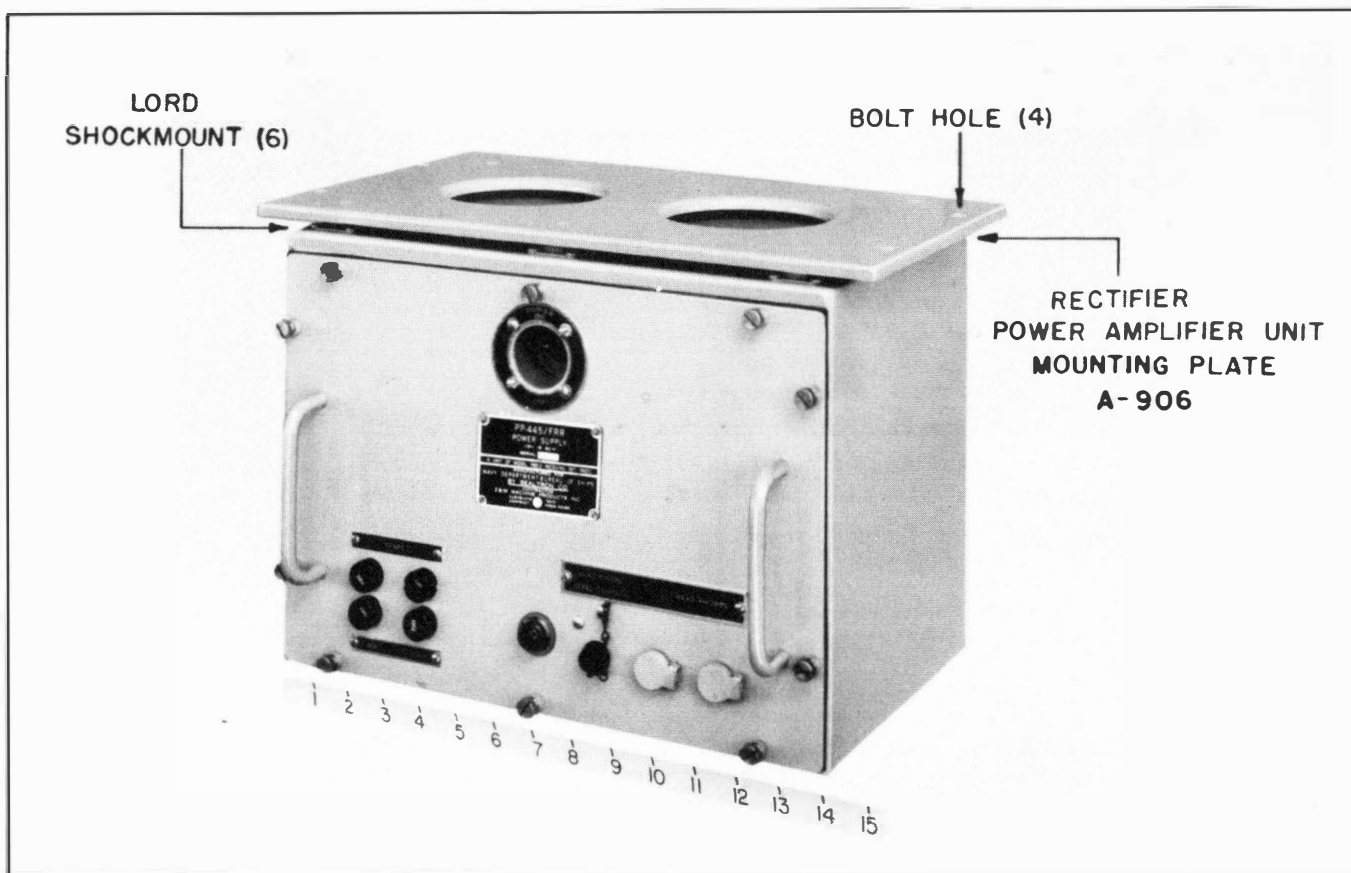
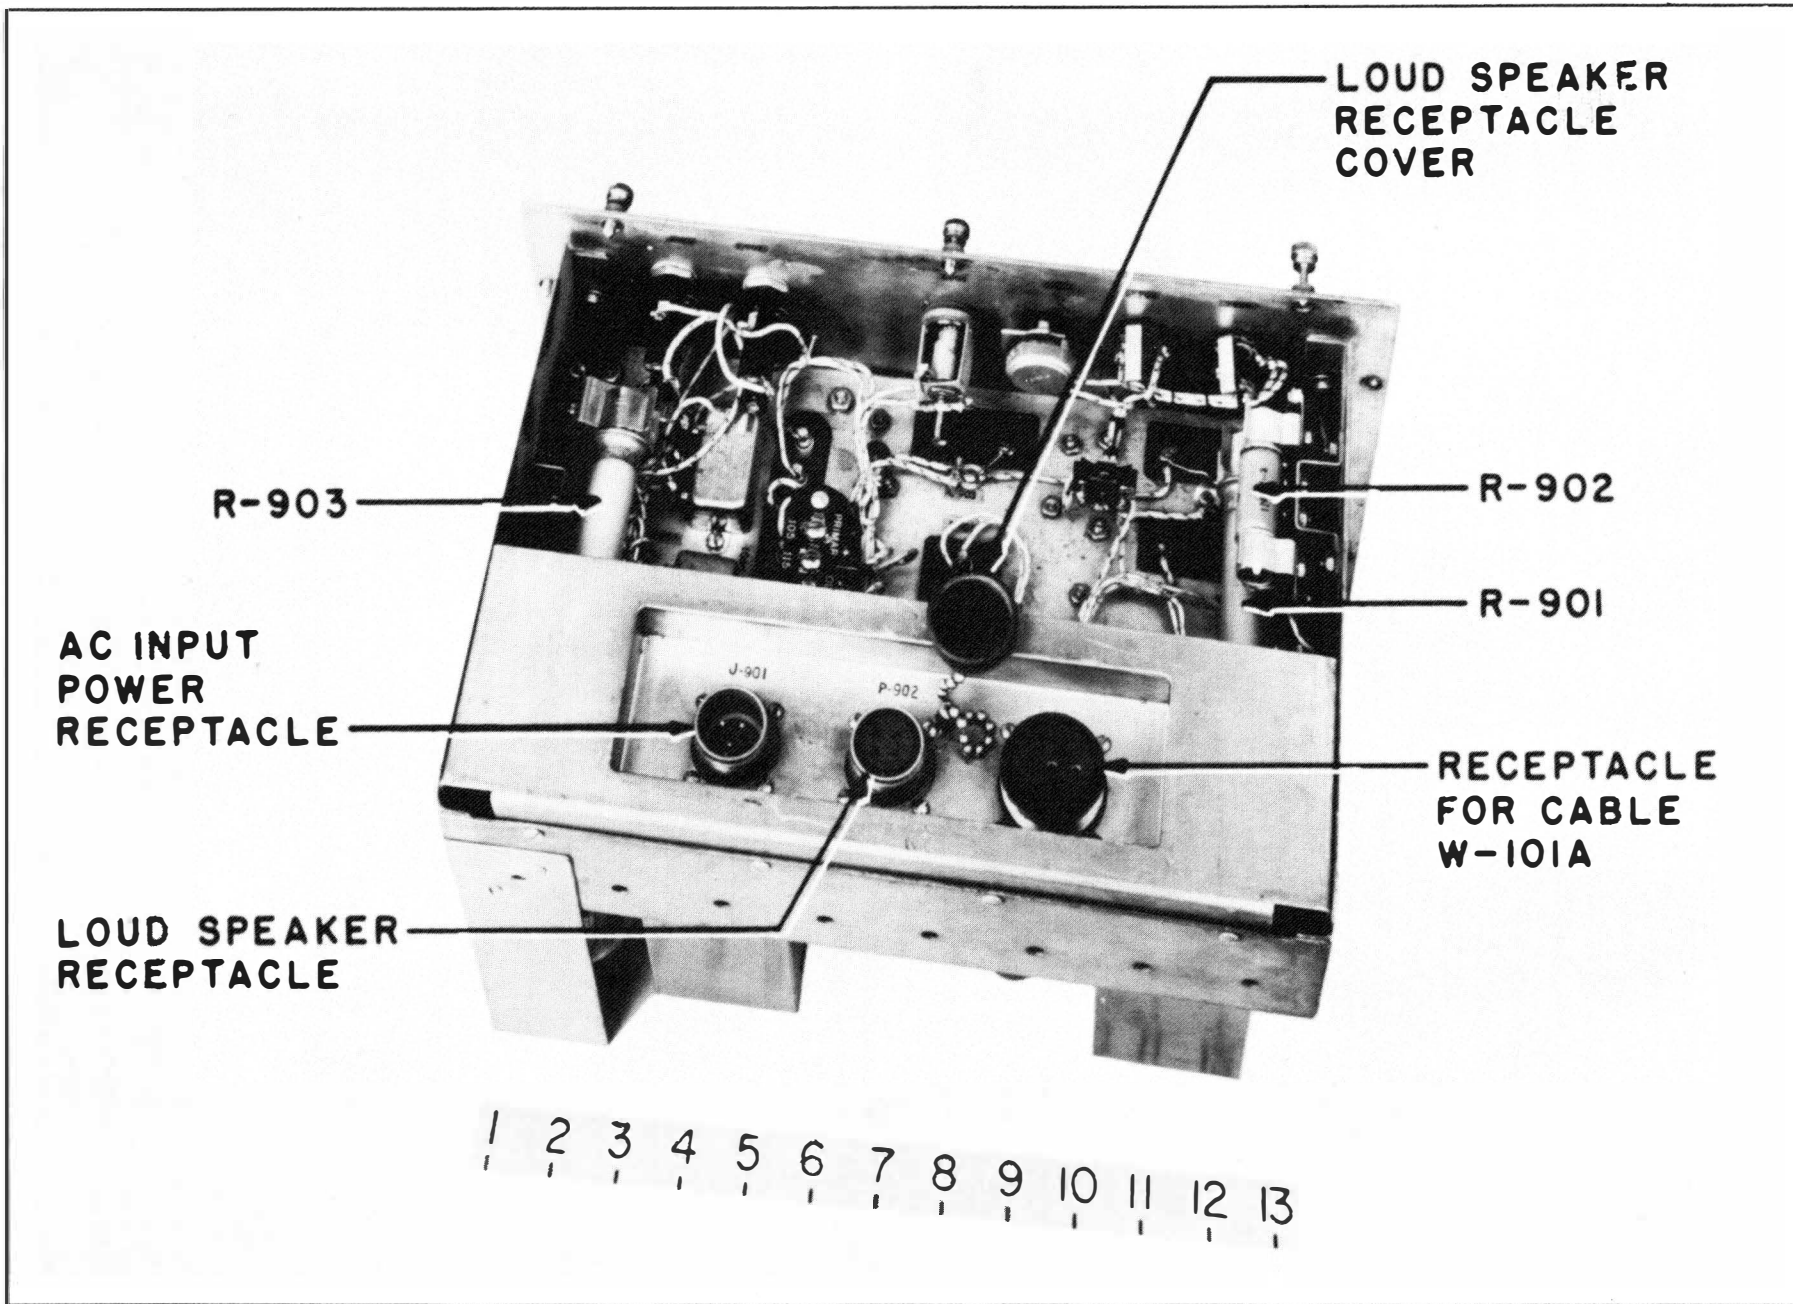
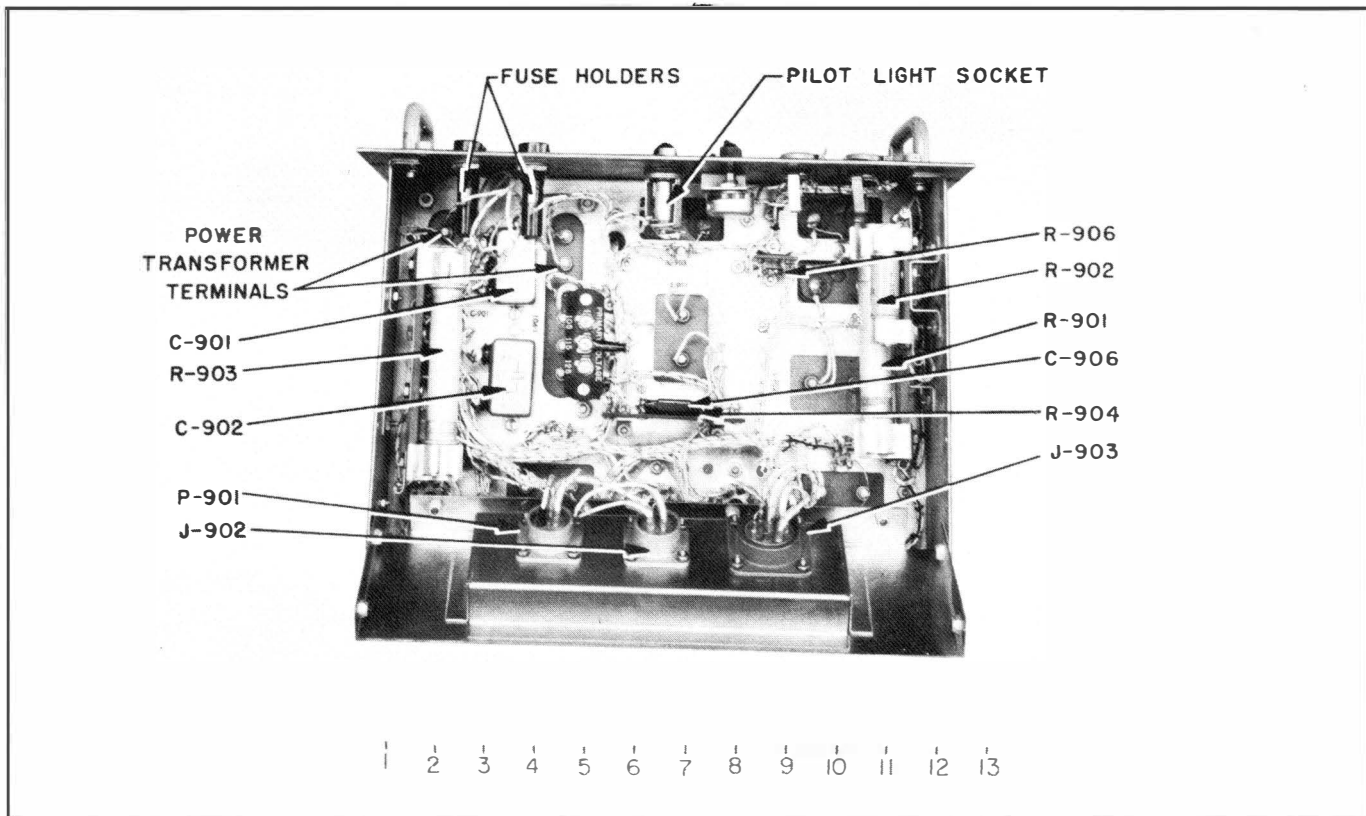

Figure 1-3. Navy Type PP-445/FRR Rectifier Power Amplifier
Figure 1-7. Navy Type PP-445/FRR Rectifier Power Amplifier Chassis. (View from bottom).
Figure 1-8. Rectifier Power Amplifier (Receptacle Box Lowered). Bottom View.
(1) CHASSIS.—The Navy type PP-445/FRR Rectifier, Power Amplifier Unit (Figure 1-3) is constructed on a spot welded sheet steel chassis about three inches deep. A receptacle box is hinged to the lower rear edge of the chassis by means of two screw hinges. In its normal position this box is within the chassis and flush with its lower edge (Figure 1-7), but it may be lowered to provide access to the input and output transformer terminals and other components mounted beneath the chassis. (See Figure 1-8). Mounted in this receptacle box are the A.C. power input receptacle (P-901), the loudspeaker receptacle (J-902), and the interconnecting cable receptacle (J-903).
(2) FRONT PANEL.—The front panel not only forms an integral part of the chassis assembly but also serves to complete the enclosure of the cabinet assembly. Two large handles, mounted one at either side of the panel, permit the chassis to be easily installed or removed from the cabinet.
(2) BOTTOM OF CHASSIS.—The wiring connections for the fuses (F-901 and F-902), the pilot light (I-901), the "HEADPHONE LEVEL CONTROL" (R-905), and the headphone jacks (J-904 and J-905) are on the rear of the panel, beneath the chassis floor. Capacitor C-902 and dual capacitor C-901 are also mounted beneath the chassis floor. (See Figure 1-8).